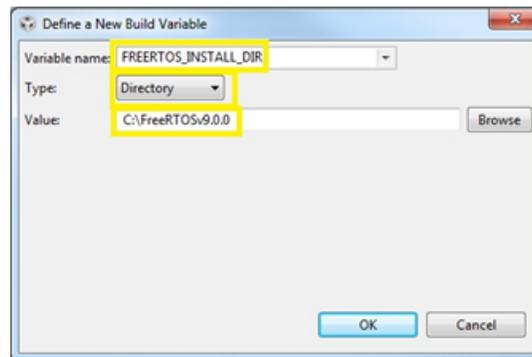

Figure 33. FreeRTOS Support in CCS (2 of 2)
- Change the Value to the <FreeRTOS install path> and then press OK (see Figure 33).